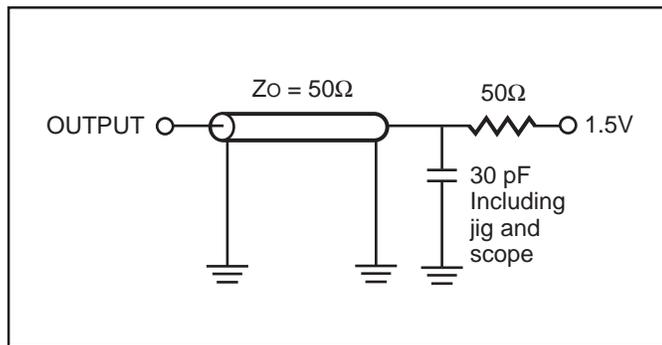

Figure 1.
Output Load	See Figures 1 and 2
- Test conditions assume signal transition times of 3 ns or less, timing reference levels of 1.5V, input pulse levels of 0V to 3.0V and output loading specified in Figure 1.
1. Test conditions assume signal transition times of 3 ns or less, timing reference levels of 1.5V, input pulse levels of 0V to 3.0V and output loading specified in Figure 1.